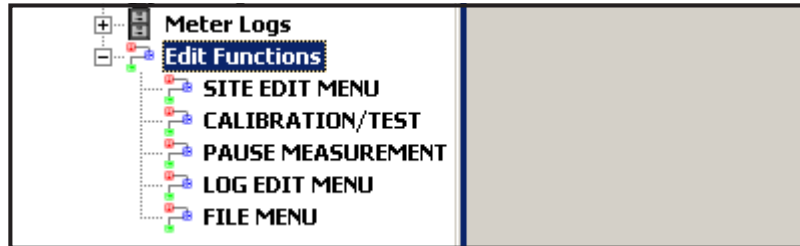
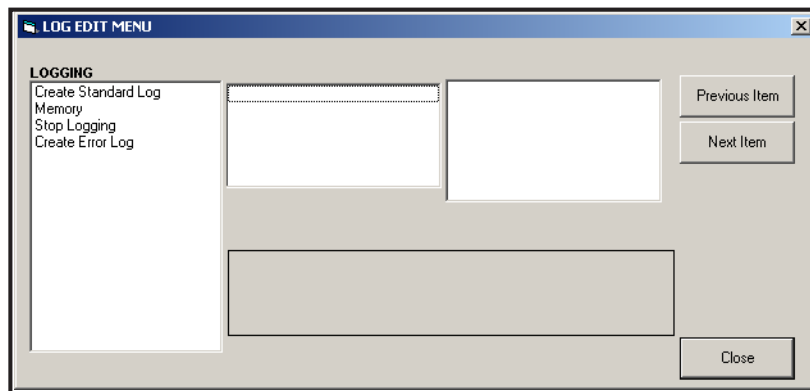

Figure 10: Edit Functions Menu for XMT868i with Logging Card
Figure 11: The *Log Edit Menu* Window
To create Figure 11, a new meter log, complete the following steps:
1. From the *New Meter Browser* in PanaView, expand the network tree and open the *Edit Functions* option (described on page C-6 of Appendix C, *Programming the XMT868i Using PanaView*). The menu will appear similar to Figure 10.
2. Double-click on the *Log Edit Menu*, as shown in Figure 10. The window appears similar to Figure 11.